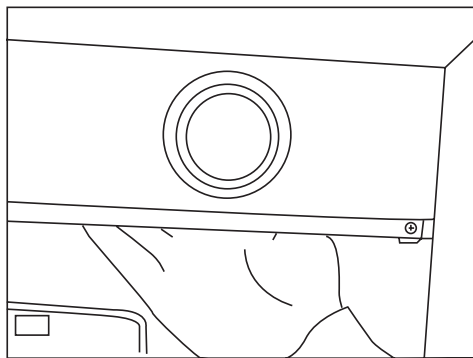

Fig.1
2. Reach within the unit and push out the lamp housing towards you. See Fig. 1 on previous page.